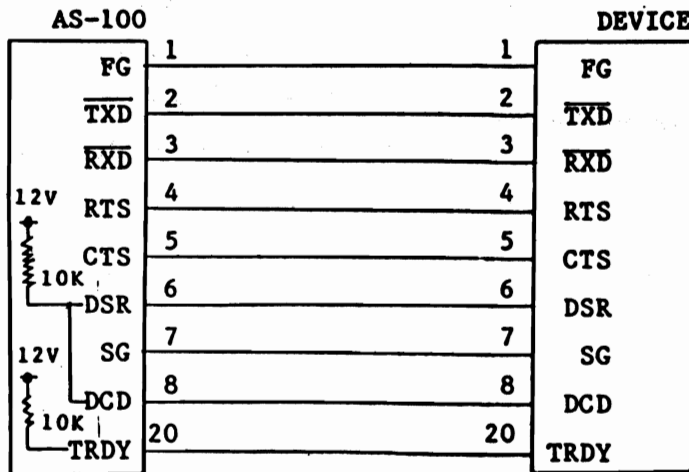

Fig. 4.3.6
- * Connect device as in Fig. 4.3.6.
(2) Parallel data interface CNT I/F P.C.B.